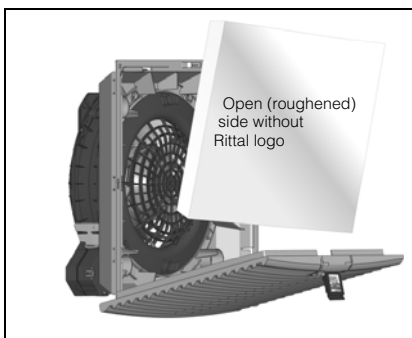

Fig. 7: Installing the standard filter mat
- Here again, ensure that the open side (without Rittal logo) faces towards the louvred grille (see fig. 7)